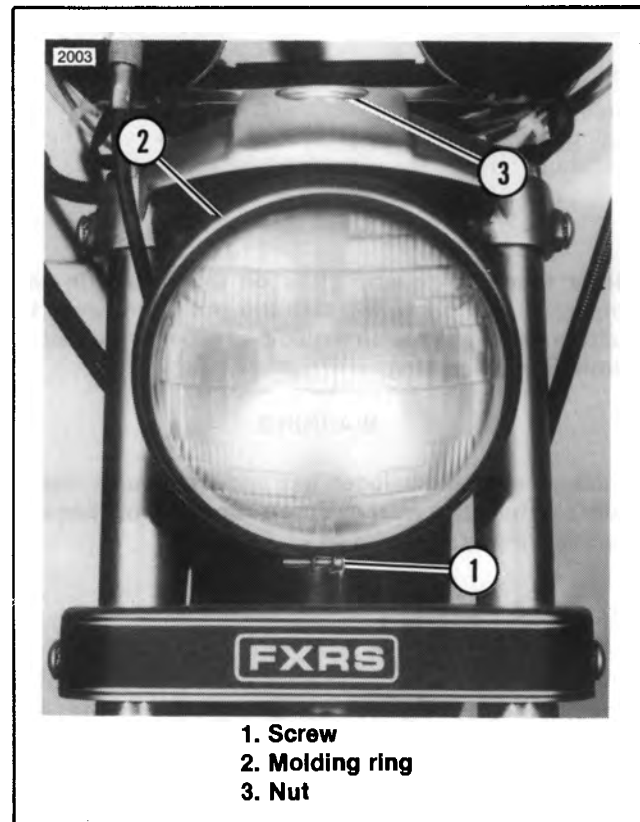

Figure 8-24. Headlamp — FXR, FXRS/SE/SP
3. See Figure 8-24. If beam requires adjustment remove snap plug on top of headlamp housing and loosen nut (3).
REMOVAL (Figure 8-24)
INSTALLATION (Figure 8-24)